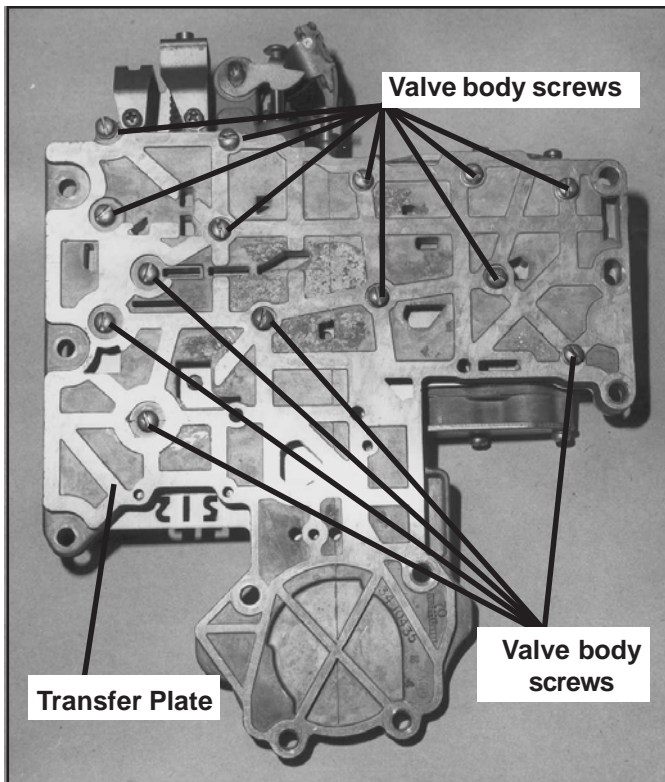
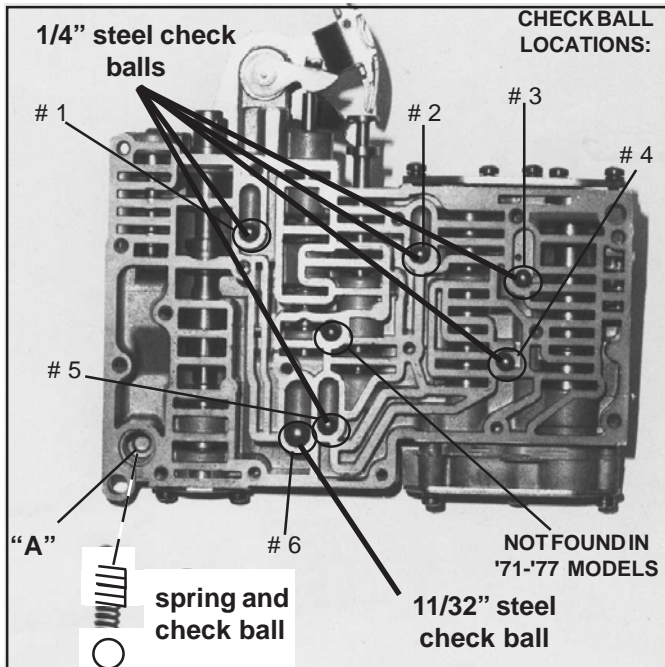

Figure 6
Figure 7
**STEP 7. Valve Body Disassembly:** (See Fig. 6) Remove the valve body screws from transfer plate. There will be fourteen of them, with either Phillips or slot heads. Hold the casting and transfer plate together with one hand while removing the last screw so you won't lose any internal parts. Carefully lift the transfer plate assembly off the casting to expose the oil passages. Turn the transfer plate assembly over so the separator plate is facing up and set it to your right. Inspect your casting for the following: (See Fig. 7)
Five 1/4" diameter steel check balls in locations 1 thru 5 and one 11/32" diameter steel check ball in location 6. (See Fig. 7) Remove these and place them in the tray.
STEP 12. Lay casting in front of you and install steel Check balls as follows: (See Fig. 7)